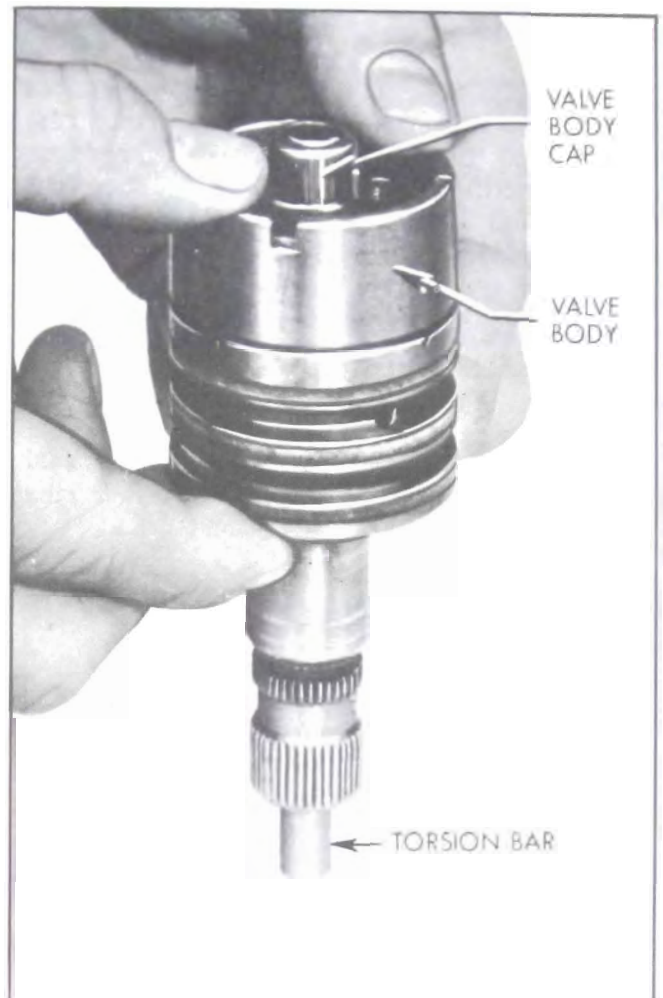

Figure 8-50—Disassembly of Valve Assembly
4. Remove the stub shaft, torsion bar and cap assembly by holding the valve assembly with stub shaft downward as shown and rapping torsion bar lightly against work-bench to dislodge the cap from valve body to cap pin. See Figure 8-50. Complete the removal of the stub shaft torsion bar and cap assembly.